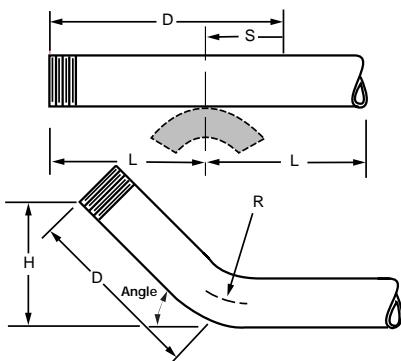

Figure 6
3. Mark off measurement (**S**) on pipe as illustrated in Figure 6.
! Marks (**B**) cannot be closer to ends of pipe than distance (**L**) or ends will not be supported on the pivot shoes (see Figure 6, Example 3 and "L" Requirement Chart 5).